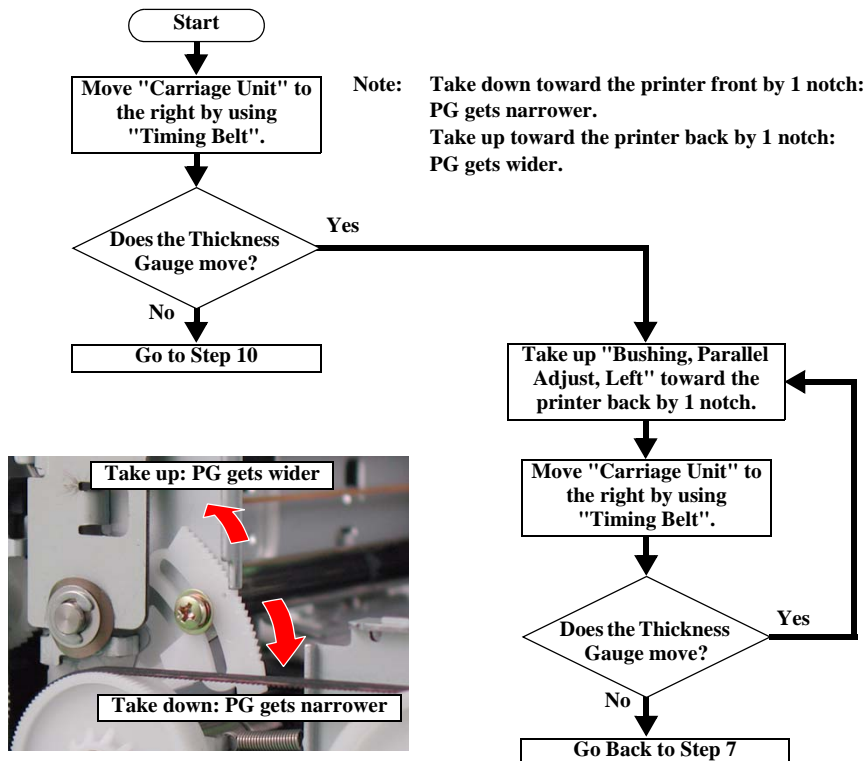

Figure 3-11. PG Checking (1)
- After finishing PG Adjustment on the right, move "Carriage Unit" to the left edge again, then check PG according to the flowchart in the Figure 3-11.